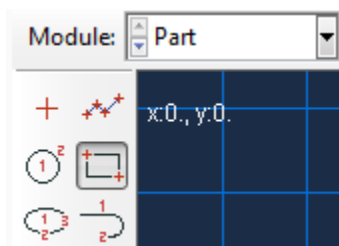

Figure L1-3. Rectangle sketch tool.
2. To sketch the rectangular profile of the plate, you need to select the **Create Lines: Rectangle** drawing tool, as shown in Figure L1-3.